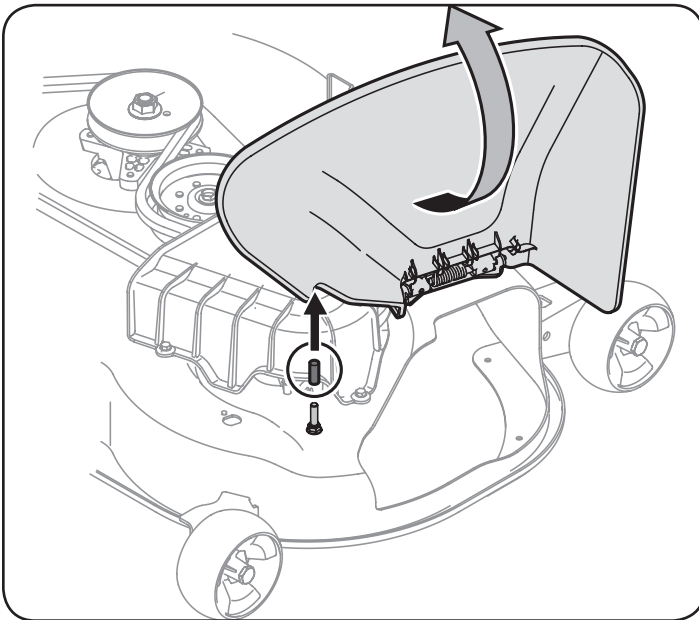

Figure 3
1. Pivot the chute deflector upward and remove the protective cover from the pin found on the deck's surface. See Figure 3.